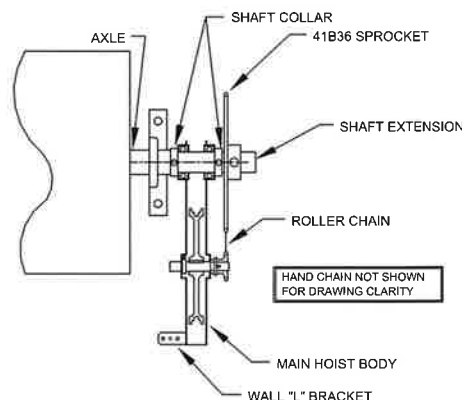

Figure 15
15.2 Reduced-drive operator — 4:1 chain hoist installation as shown in Figure 15.